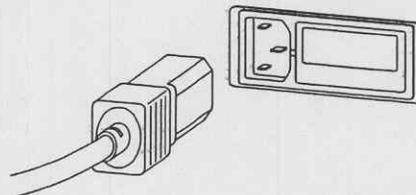

Figure 2-1. Recessed male receptacle.
b. Connect the female end of the electrical power cable assembly into the recessed male receptacle (fig 2-1) in the back of the APS module. Then, insert the male connector of the electrical power cable assembly into a convenient electrical wall receptacle.